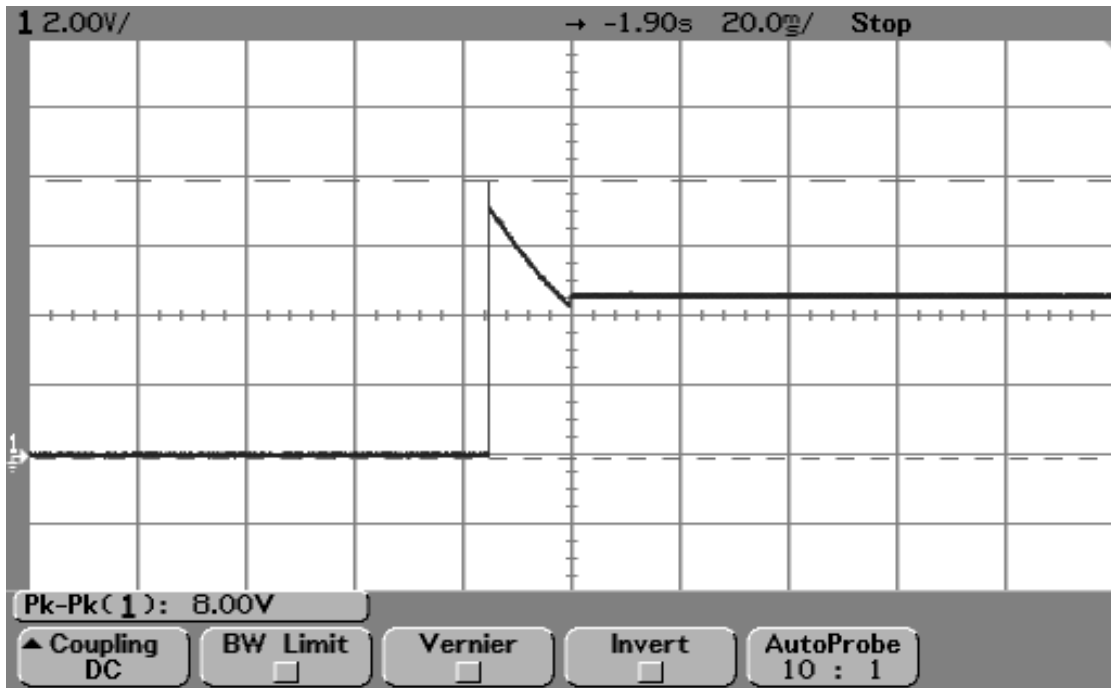

Figure W-1 Cold Start
- 3.1.5 Figure W-1 shows the pulse on the C15, i.e. the base signal of Q12 during the cold start.